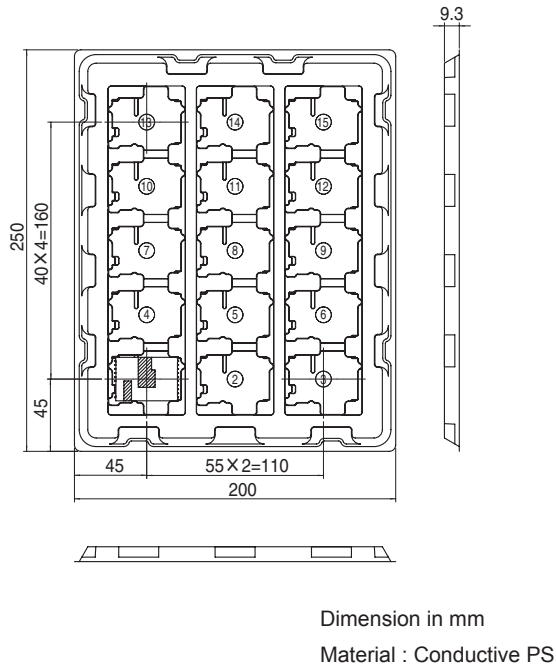

Fig.9.1 Delivery package information(SFS10/SFS15/SFS20)
■ These are packed in a tray (Fig.9.1, 9.2).